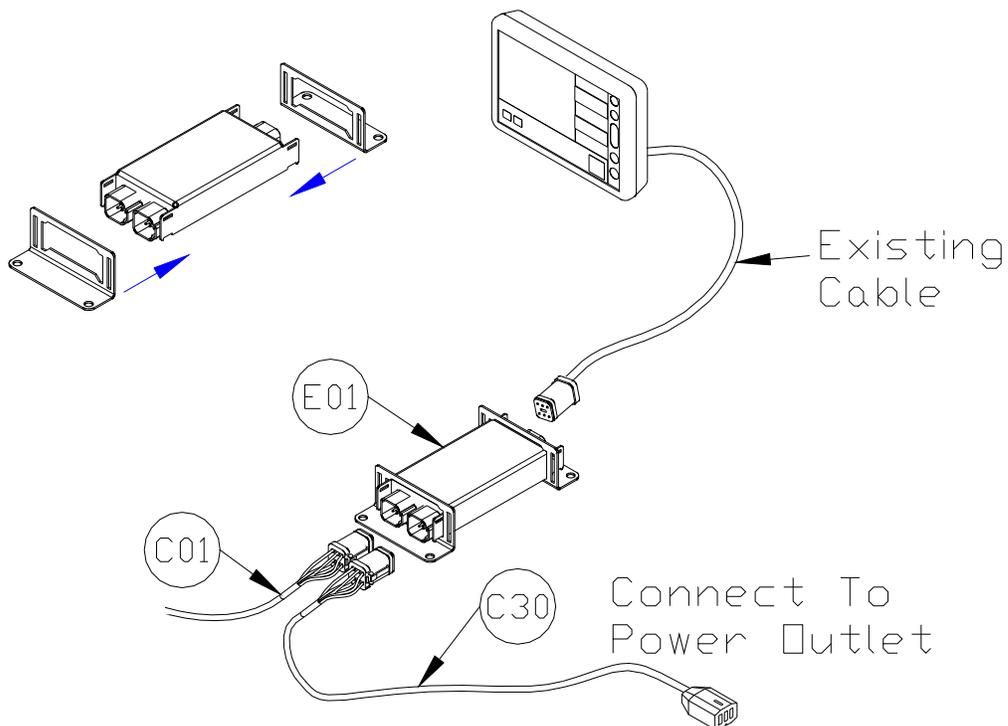

Figure 17: Control Module Mounting
1. Refer to **Figure 1** and **Figure 17**.